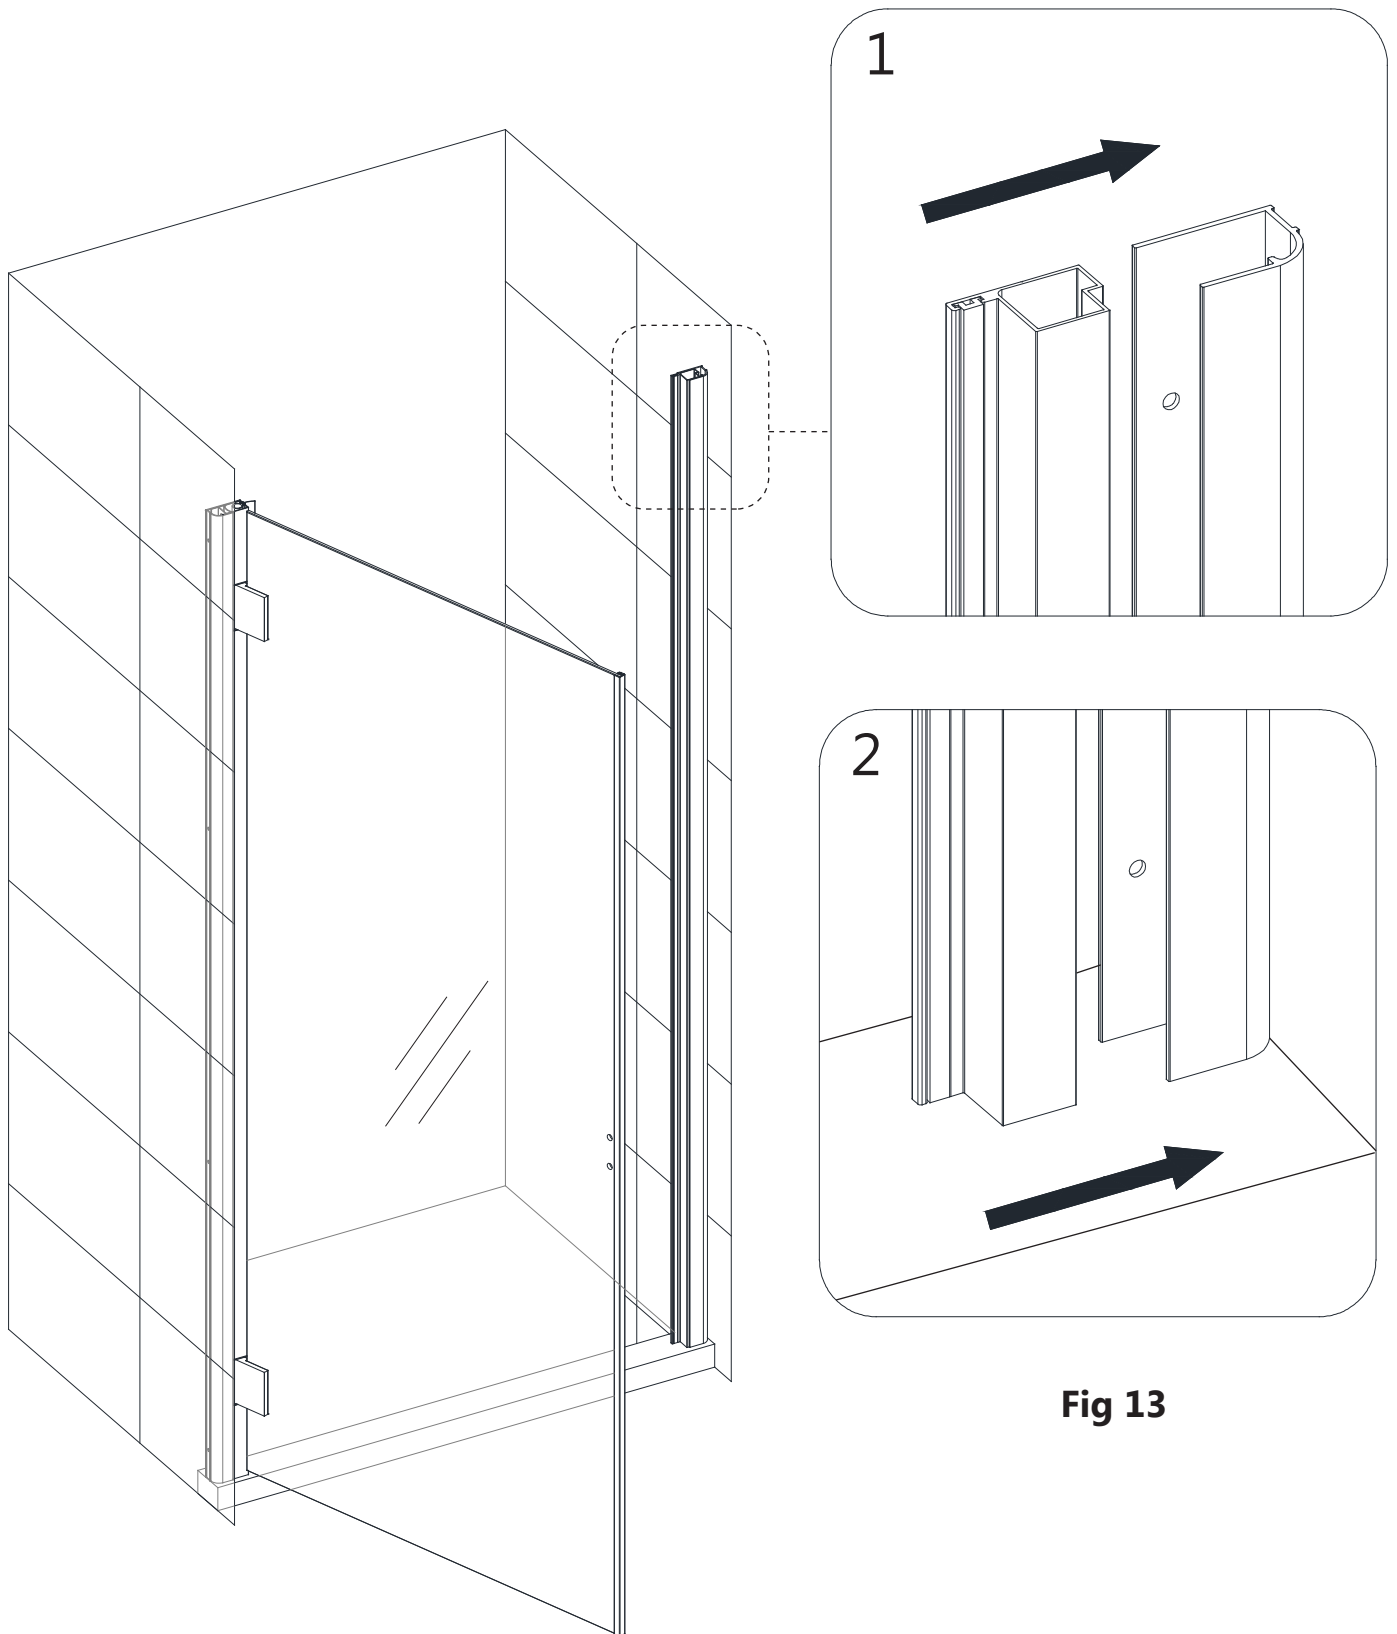

Fig 13
10. Insert the **Strike Profile (#09)** back into the installed **Wall Profile (#10)**, and adjust the **Strike Profile (#09)** as necessary to line up the magnetic seals. (**Fig 13**)